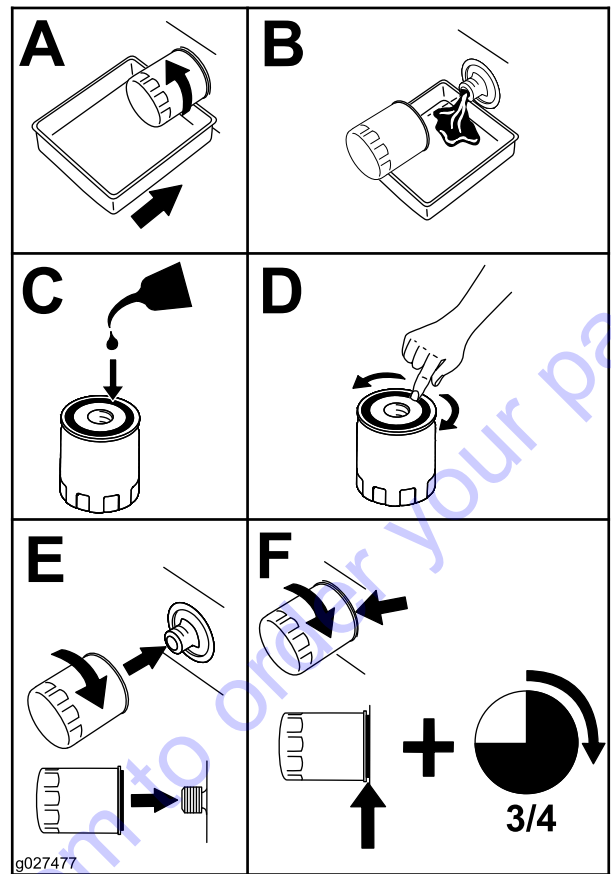

Figure 33
- Change the engine-oil filter (Figure 33).
3. Locate and remove the spark plug(s) as shown in Figure 33.